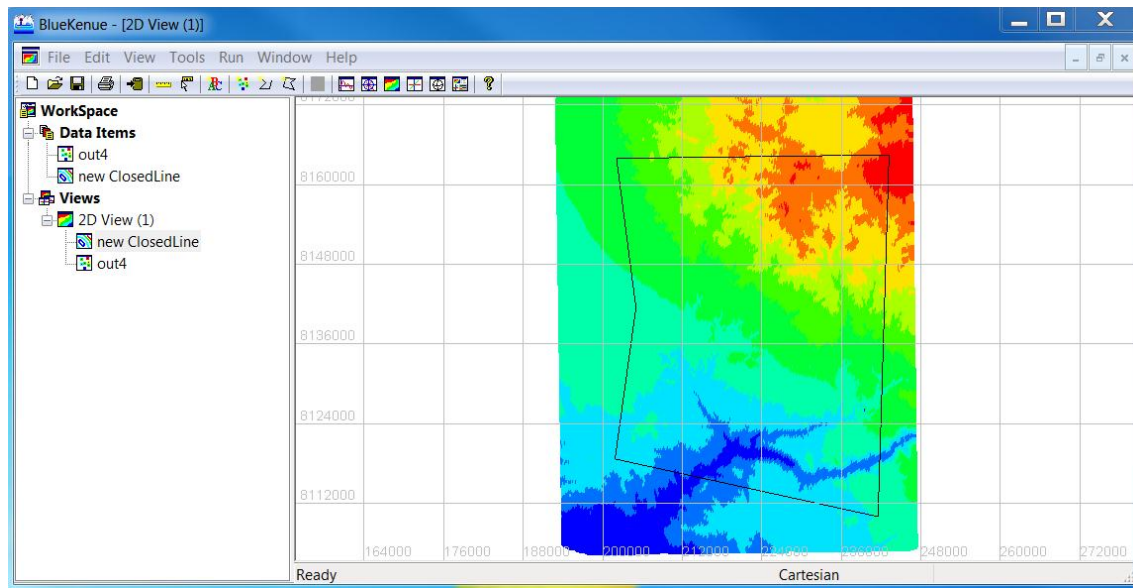

Figure A106: Create closed line for the exterior boundary of the mesh.
2. Create closed line (Figure A106) Page 90